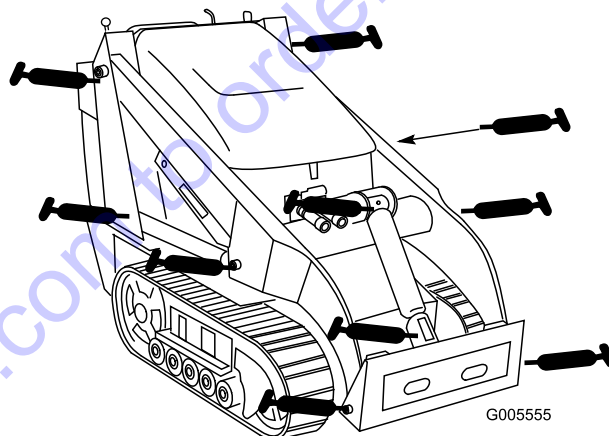
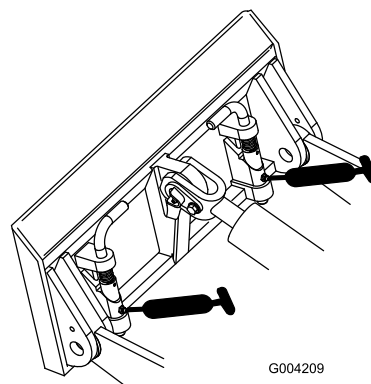

Figure 30
Figure 31
4. Connect a grease gun to each fitting (Figure 30 and Figure 31).